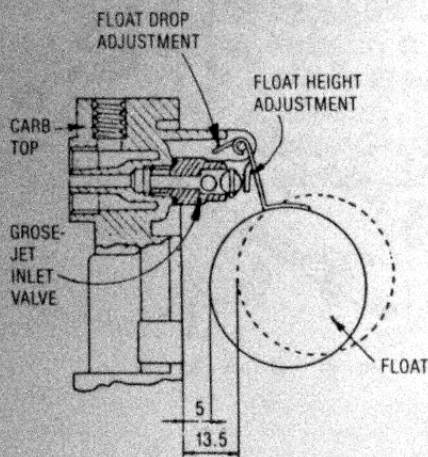

FIGURE 4
2. Float level is too high	2. Remove carb top and check float level (Fig. 4).
2. Float level is too low	2. Remove carb top and check float level (Fig. 4).